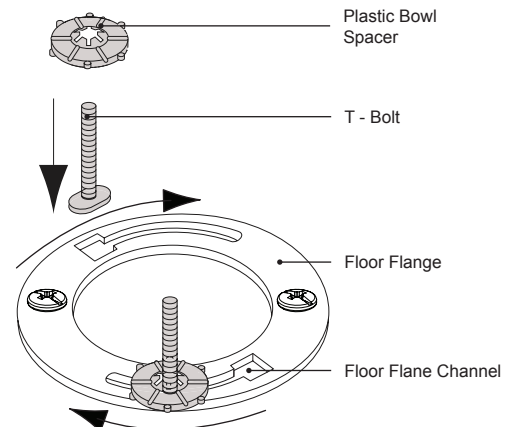

Figure 2
- 1 Before installing a new wax gasket, install flange T-bolts and bowl nuts onto toilet flange (Figure 2).